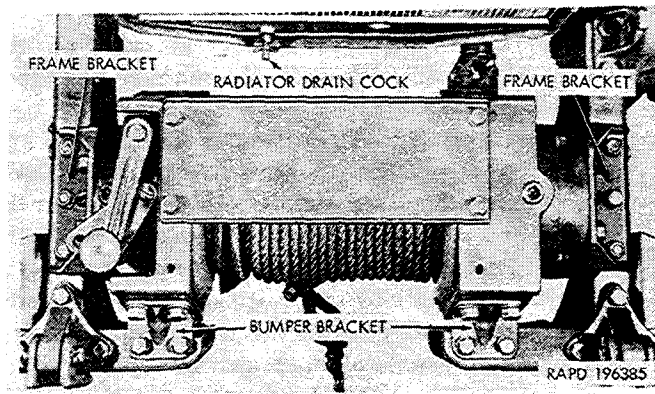

Figure 2-169. Winch—top view.
The winch (fig. 2-169), on vehicles so equipped, is mounted at the front of the vehicle and is supported by brackets attached to the frame side rails and the front bumpers. The drive shaft has a universal joint at each end, with a shearpin in the front universal joint which prevents damage to the driving mechanism in the event the winch is overloaded. A safety brake is provided to hold a load in any desired position or in the event the shearpin breaks. Organizational maintenance includes adjustment of the safety brake, replacement of the cable, the drive shaft universal joints and shearpin, and the winch.
(1) Disconnect the winch drive shaft (para 2-153 a).
(2) Remove the four bolts and lockwashers that secure the winch to the bumper brackets (fig. 2-169) and to the front bumpers.
(3) Remove the six bolts and lockwashers that secure the winch to the frame brackets and to the frame side rails, and remove the winch.
(4) Remove the two bolts and lockwashers that secure each bumper bracket, and remove the brackets. Remove the four nuts and lockwashers that secure each frame bracket and remove the brackets.